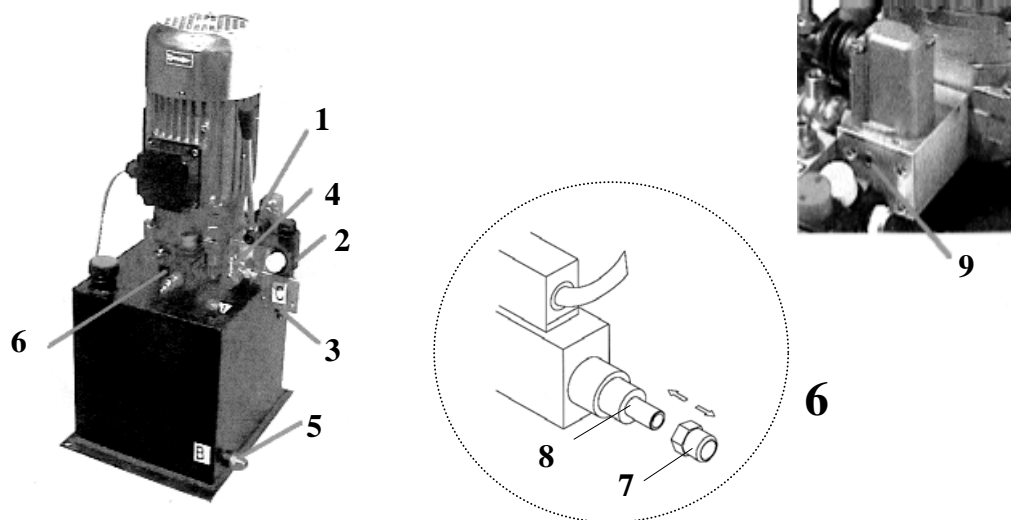

Figure 13 - Hydraulic unit with manual pump and lowering valves. To lower the lift in the event of a malfunction
- Bleed the manual pump for emergency lowering: open the vent screw (Figure 13, Item 9) and press the UP key until the hydraulic oil emerges at the vent screw. Now close the vent screw.
- Open the front panel of the control desk, and press the valve A upwards using a thin screwdriver or a pin punch. At the same time, pump the manual pump (Figure 13, Item 1) until the lift is raised slightly (for bleeding of the manual pump, see Section 6.1), and the gear racks disengage.
- Unscrew the cap nut (Figure 13, Item 7) on the valve (Figure 13, Item 6). Release the lock nut from the adjusting screw from underneath and drive the screw in completely using a suitable socket screw wrench (hex. socket 3mm), the runways lower to the final bottom position.